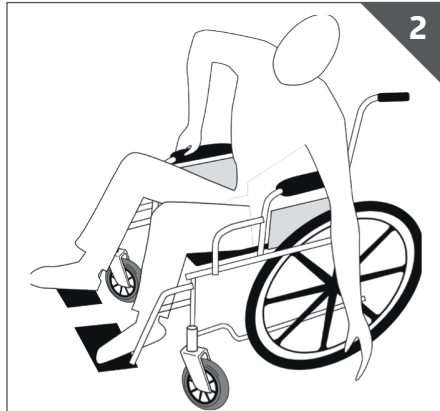

Figure 2
- When reaching sideways position the casters to provide the greatest stability side to side (Fig. 2).